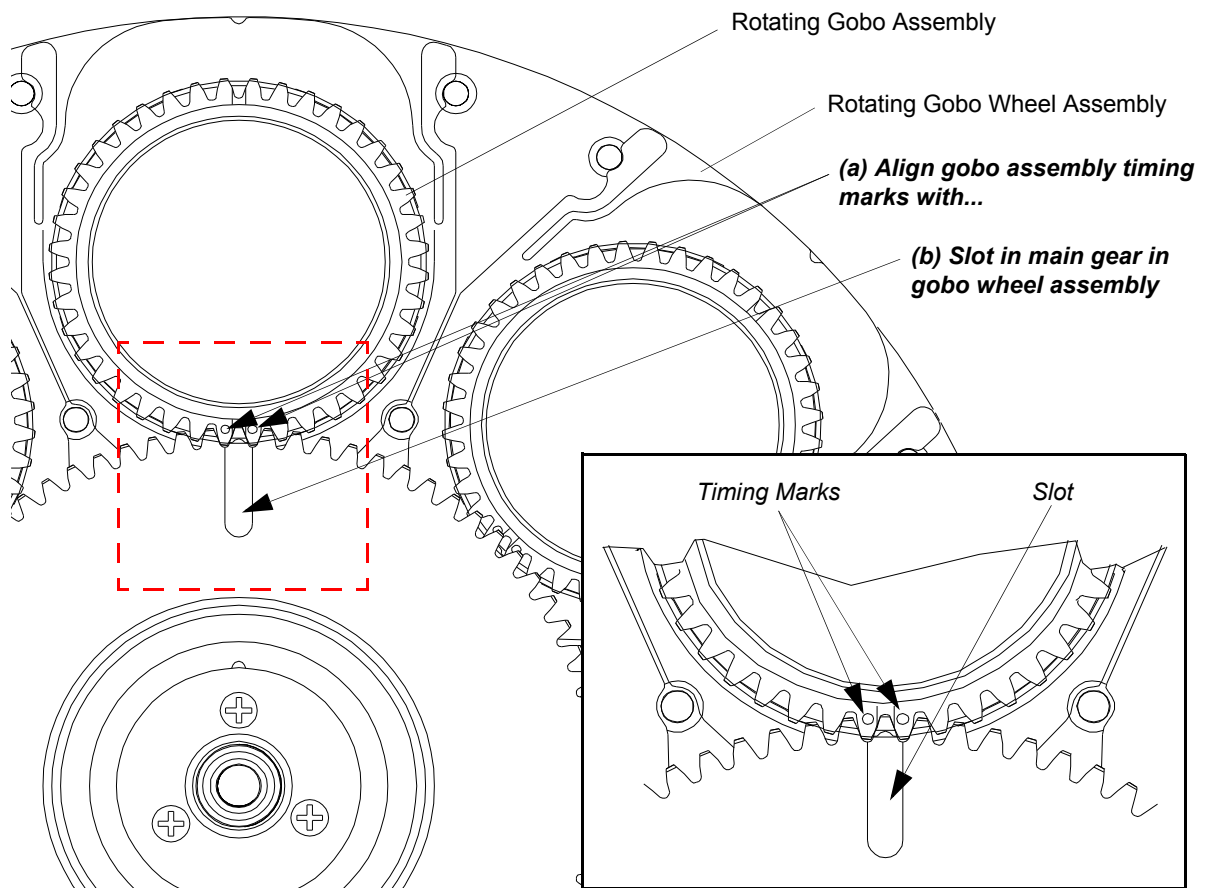

Figure 2-8: Rotating Gobo Wheel - Gobo Clocking
- Step 6. **Before installing gobo assembly into rotating gobo wheel assembly**, make note of relationship between carrier and main gear slot as illustrated in Figure 2-8.